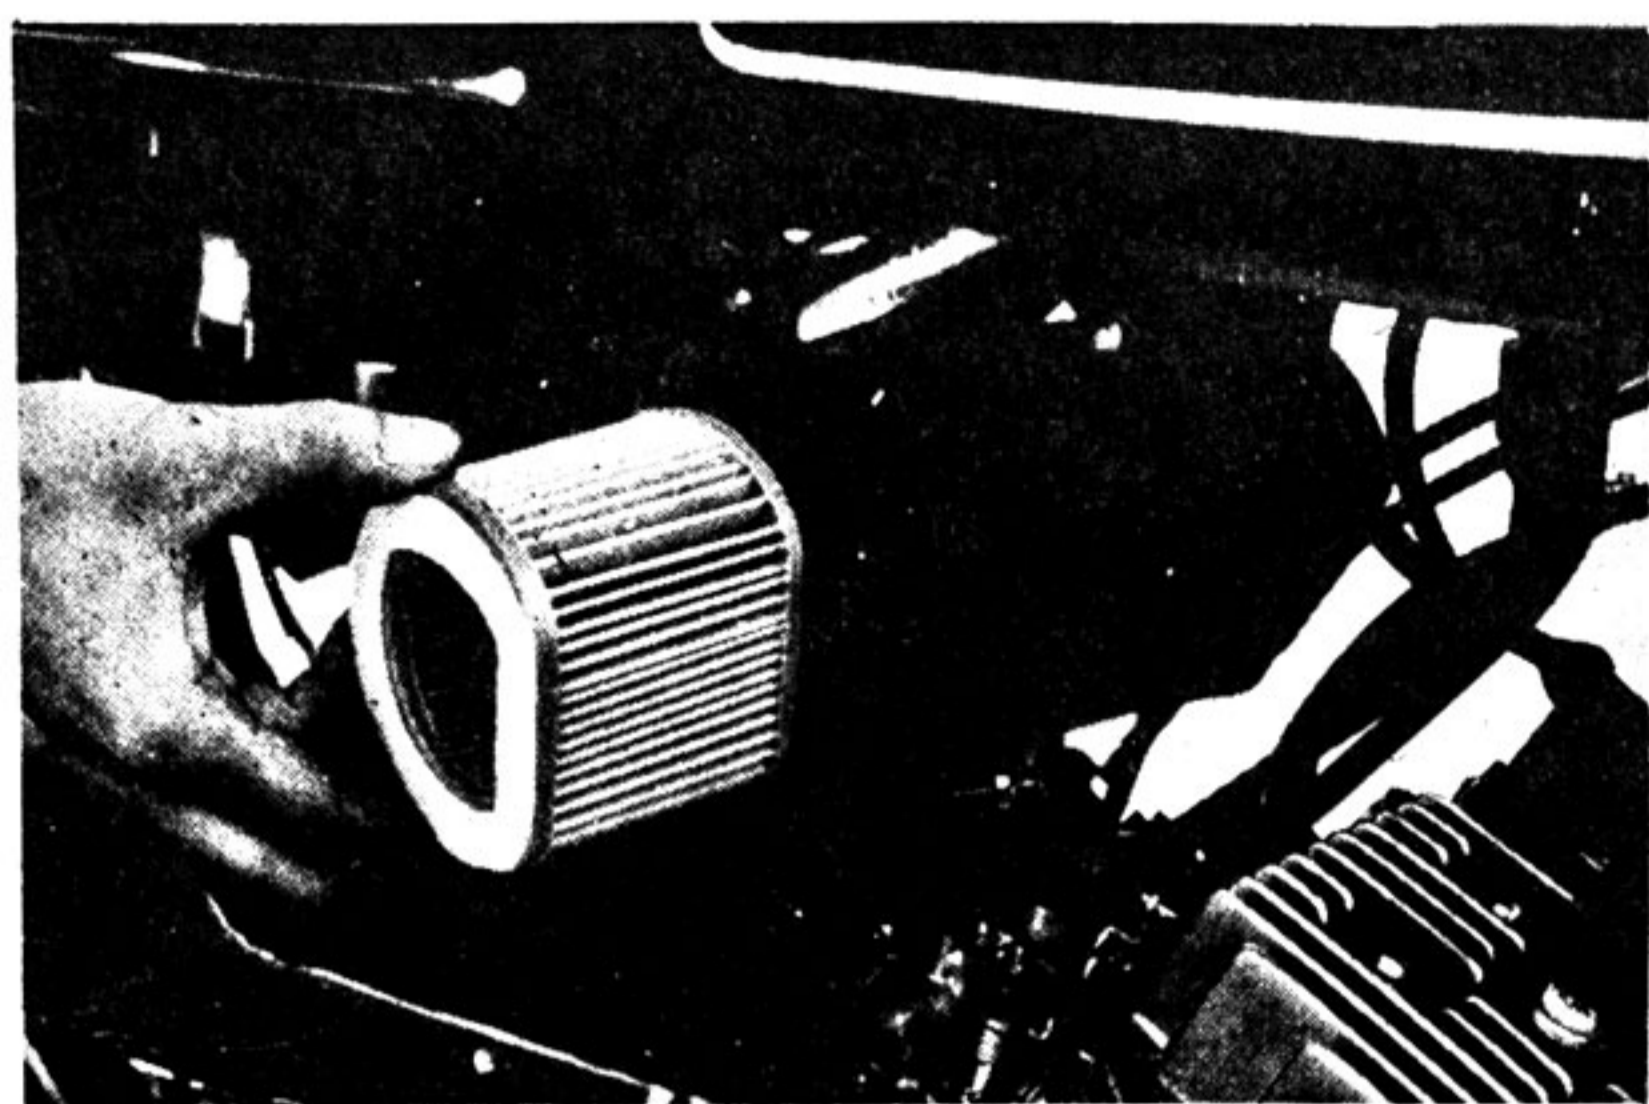

Fig. 4-20-2
(3) The filter element is the divided type. (Fig. 4-20-2)